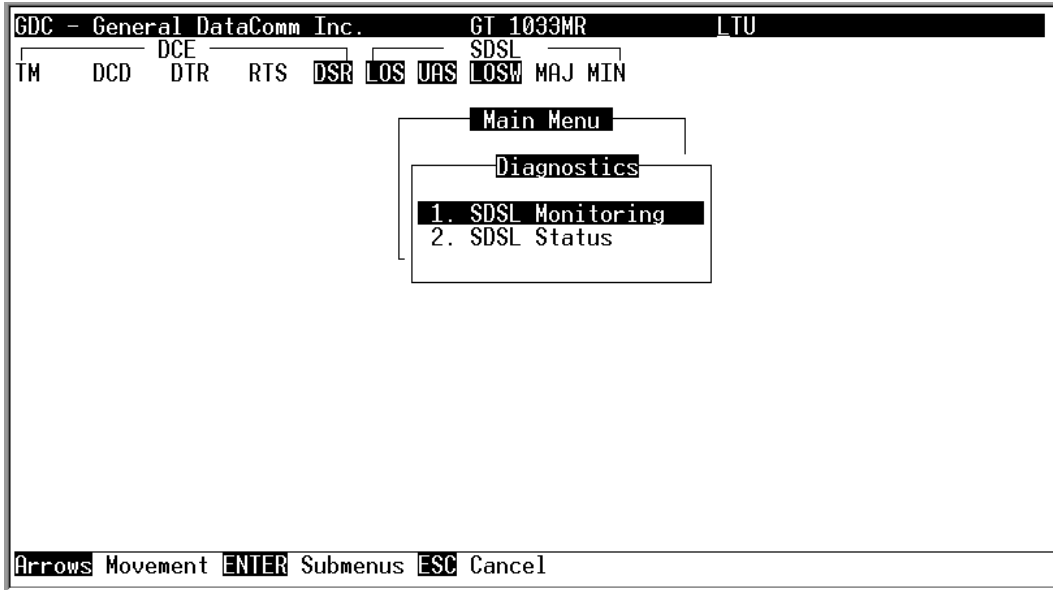

Figure 3-4 Diagnostics Menu
To open the diagnostics menu, select item 1 on the main menu. Figure 3-4 shows the screen and Table 3-5 explains the options.